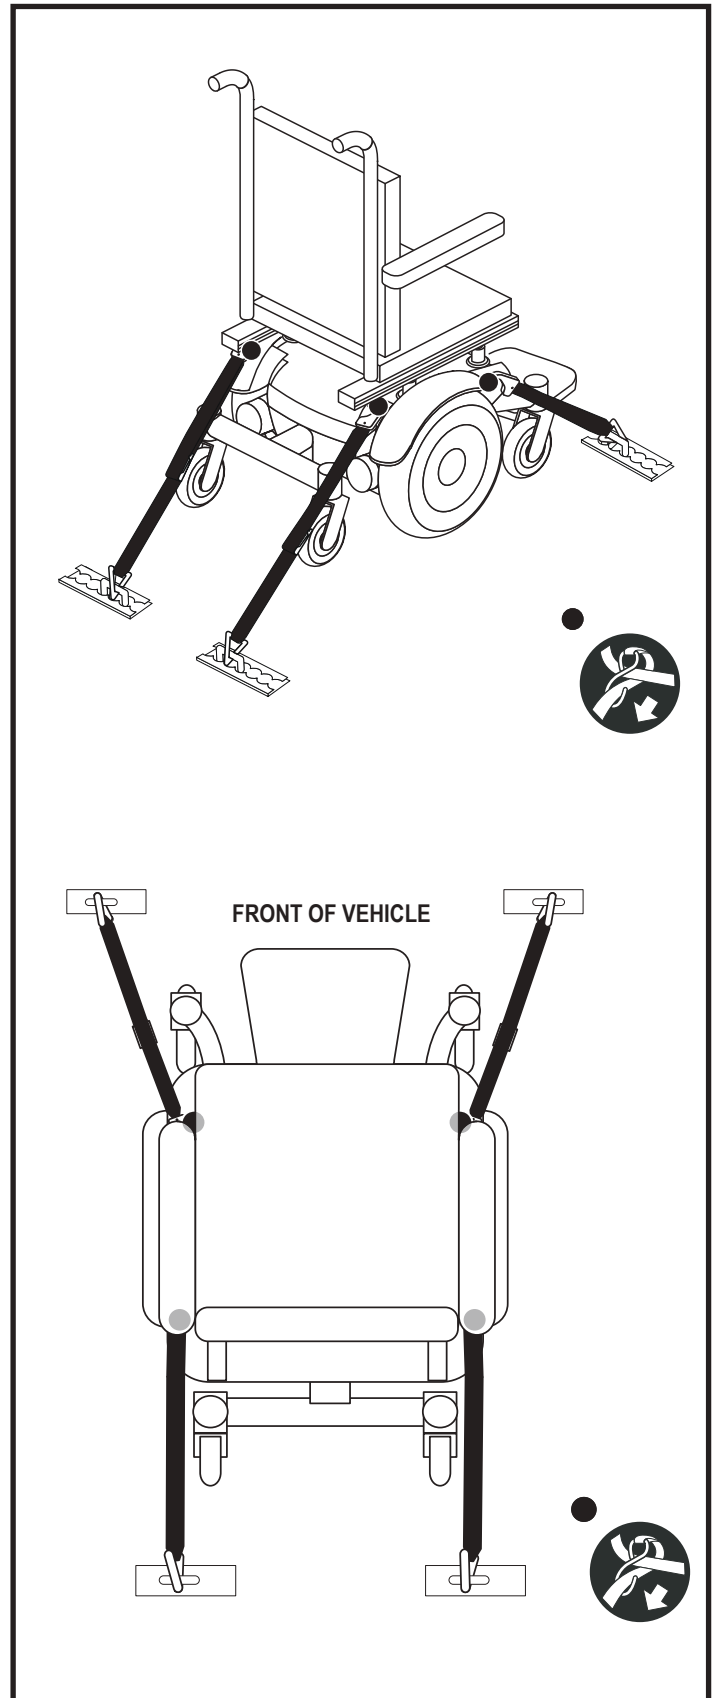

Figure 7. Unoccupied Transit System Securement Points
- Position the anchor points for the rear tie-down straps directly behind the rear securement points on the power chair. The front tie-down straps should be anchored to floor points that are spaced wider than the power chair to provide increased stability. **See figure 7.**